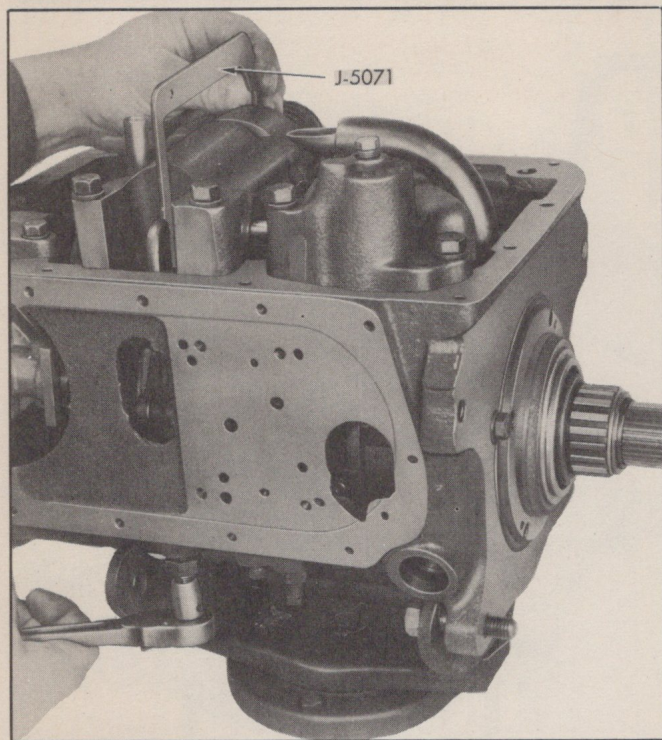

Fig. 308—Adjusting Rear Band
1. With rear band centered on drum, tighten band adjusting screw until actuating lever contacts face of gauge J-5071 (Fig. 308).